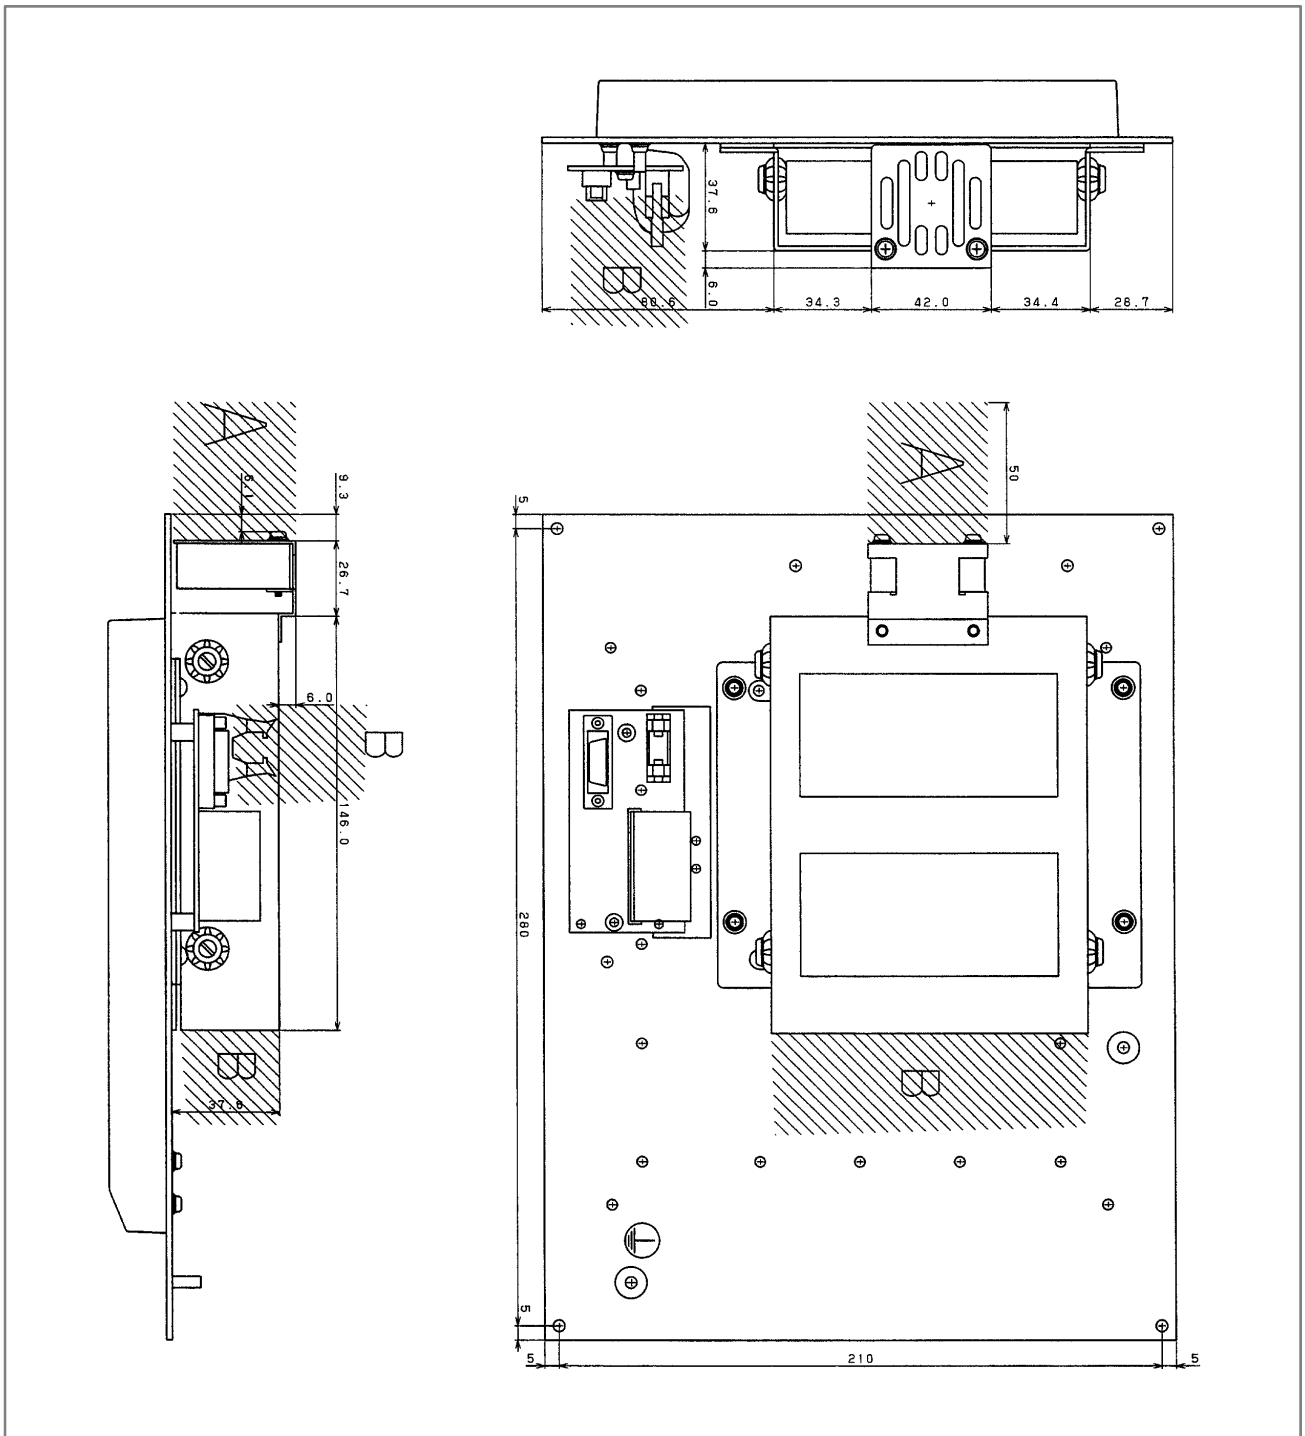

Fig. 13
- 4) Figures 13 to 18 show the external dimensions of the MDI and each of the units mounted on the MDI.